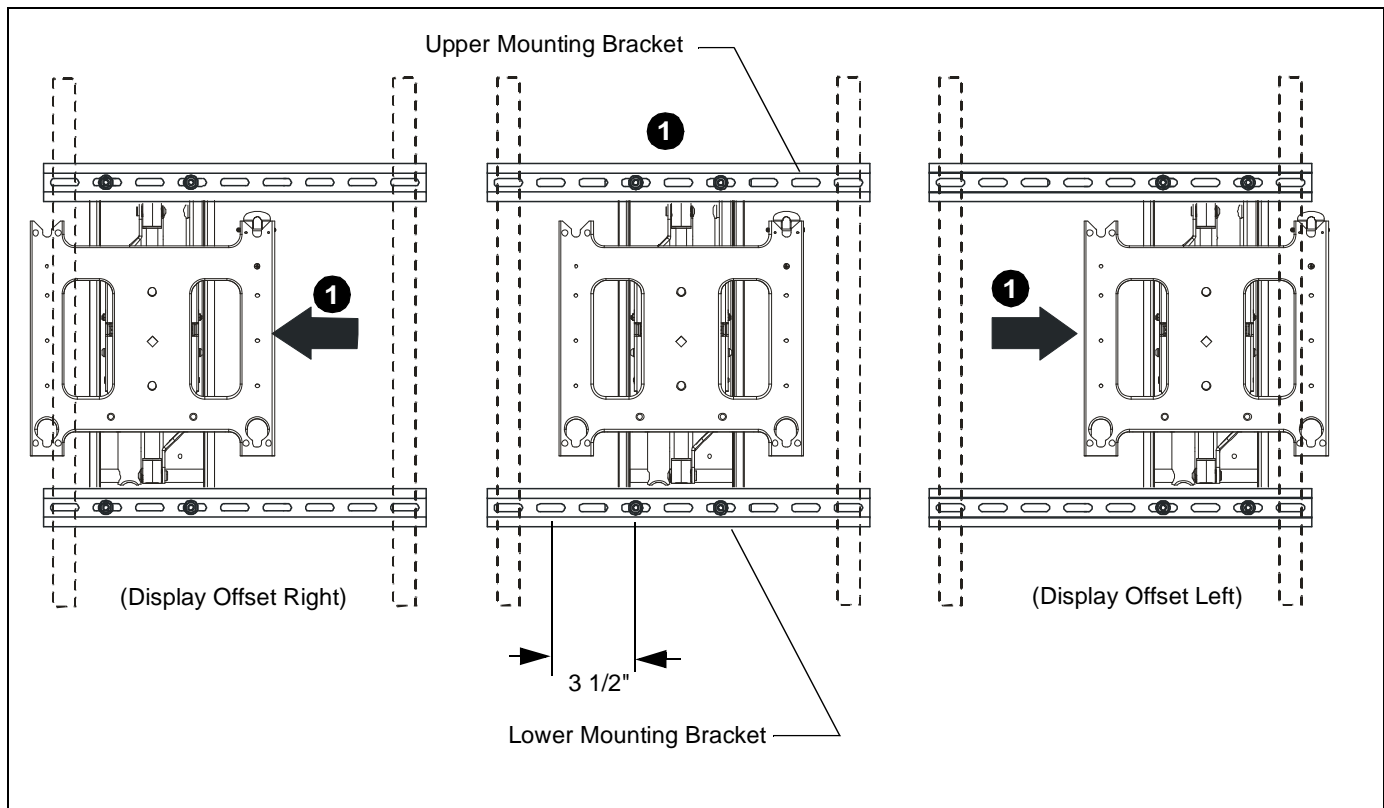
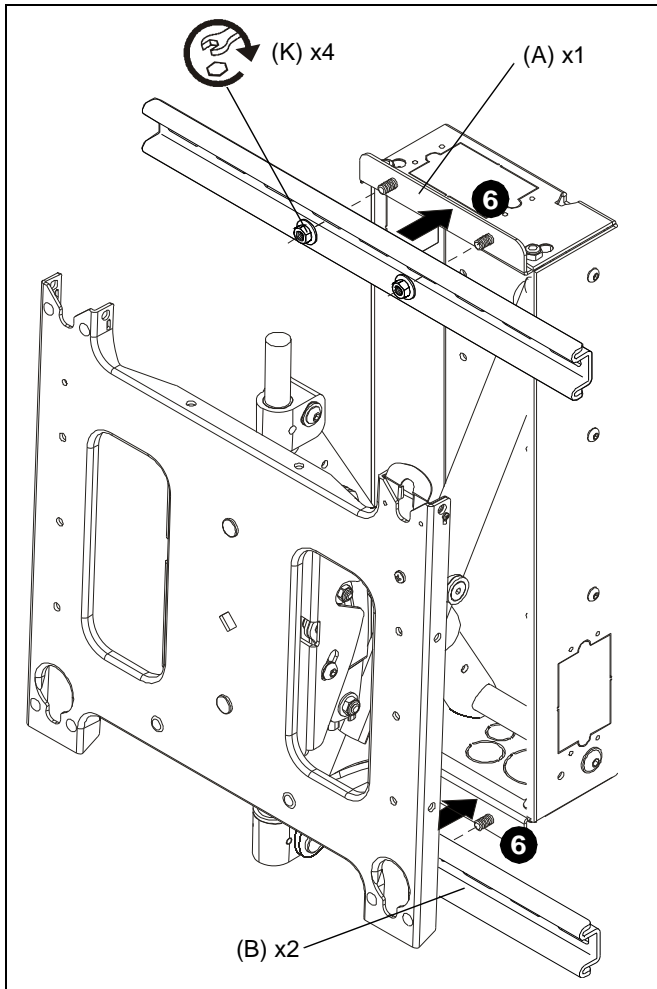

Figure 3
Figure 4
The PIW Series is designed to accommodate up to 3 1/2" of lateral shift adjustment (right or left display offset from center of studs). This is accomplished by aligning the upper and lower mounting studs on the housing with either the right hand or left hand mounting holes in the upper and lower mounting brackets. (See Figure 3)
3. Determine desired lateral shift required. (See Figure 3)
6. Assemble upper and lower mounting rails (B) to mount (A) in slots that correspond to the desired lateral shift offset identified during step 3 above using four flanged nuts (K) assembled to mount (A). (See Figure 3) and (See Figure 4)
7. Install J-box (s) and route all in-wall cables and wiring to mount enclosure keeping in mind and lateral shift offset determined during step 3 above. (See Figure 3)